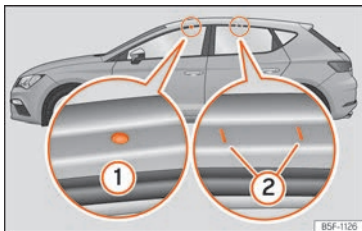

Fig. 161 Leon: attachment points for the roof railings for the roof carrier system.
The front and rear attachment points ① and ② are only visible when the doors are open >>> **Fig. 161**.